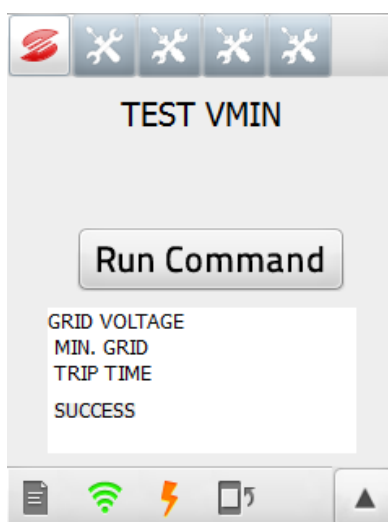

Figure 90: Example page of the Autotest function
- press the **Run Command** () button to enable the test: the trip value starts varying until it matches with the measured value (see Figure 90);